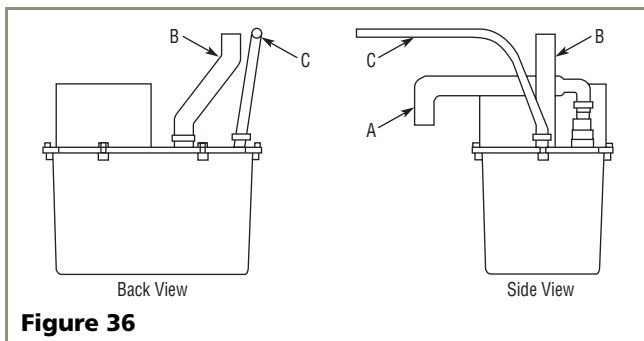

Figure 36
4. Check that the clamps and hose connections are tight at the following areas (see **Figure 36**):
- Discharge tube (A)
- Drain tube (B)
- Vent tube (C)